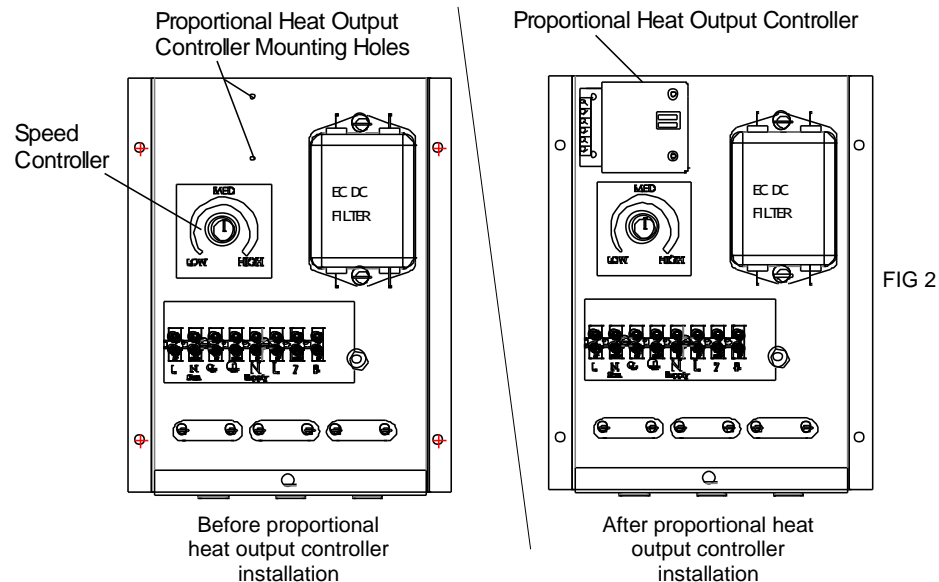

FIG 2
6. Attach the proportional heat output controller to the mounting holes show in fig 2.
6. Re-connect the four wires from the speed controller to the appropriate connectors on the proportional controller. (See fig 2)